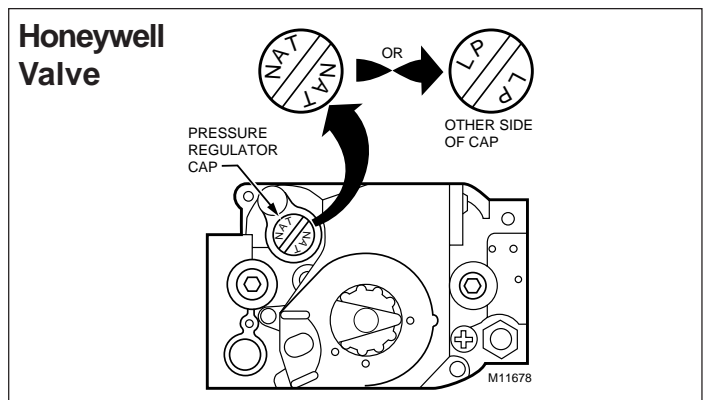

Figure 8. Convertible Pressure Regulator Cap
- g. For Honeywell gas valves with the regulator converter (Figure 8), check for the letters NAT or LP on the pressure regulator cap. Unscrew the cap, invert it, replace, and tighten until snug.